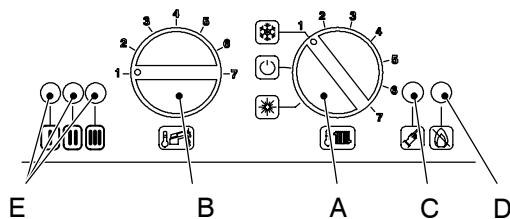

Fig. 46
- 9 Turn the boiler OFF and ON positioning the function selector knob A as indicated in Fig. 46